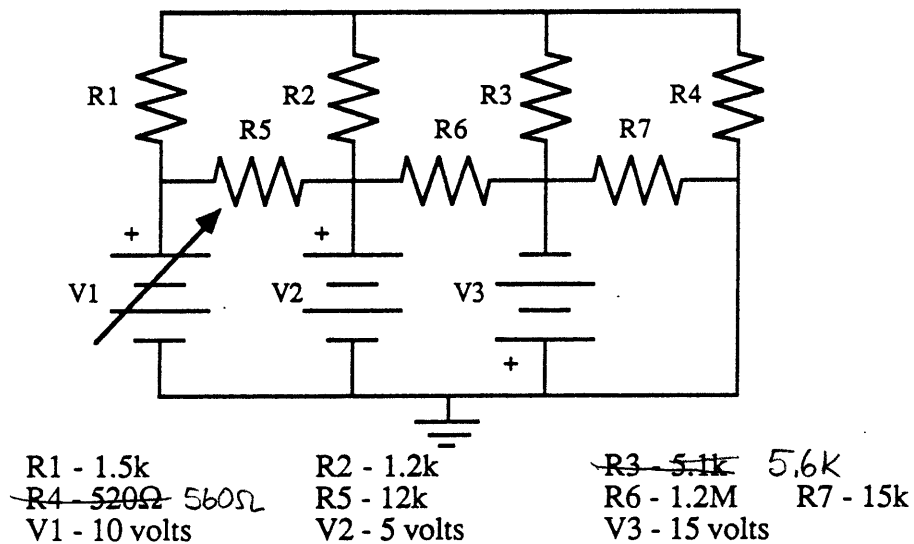

Figure 2.3 Resistive network
Build the circuit shown in Fig. 2.3 using your protoboard. Use the RSB for the one resistance which is not a standard value. Use the DMM to measure all of the voltages (including the sources) and all of the currents. Record your measurements in Table 2.7. **IF YOU MEASURE ANY CURRENT ABOVE 10 mA YOU ARE DOING SOMETHING WRONG!** The meter must be put in series with the resistors (or sources) to measure current. To do this you must disconnect one end of a resistor (or source) from the rest of the circuit and use the meter to bridge the broken connection. Remember to use the "VKS" input for measuring voltage and the "mA" input for measuring current.
- 6. (a) Starting from the source voltages and resistance values, calculate the voltage across and current through each resistor in Figure 2.3. Do not use any of your experimental data. Show your work.